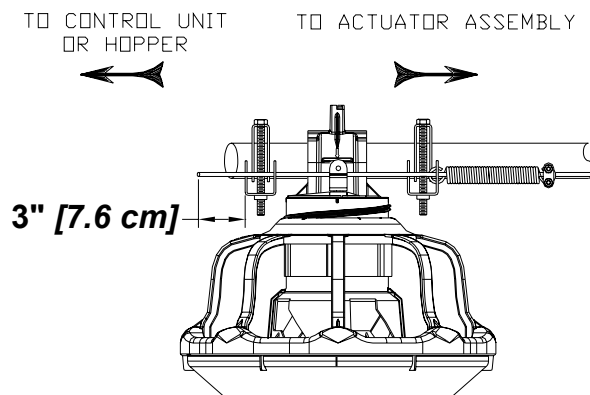

Figure 72. Trim excess actuator wire at control/hopper
5. With the brood in the open position. Go to the control unit or hopper end to trim the extra actuator wire. Leave **3 inches [7.6 cm]** of excess wire past the spring bracket, **see figure 72**.